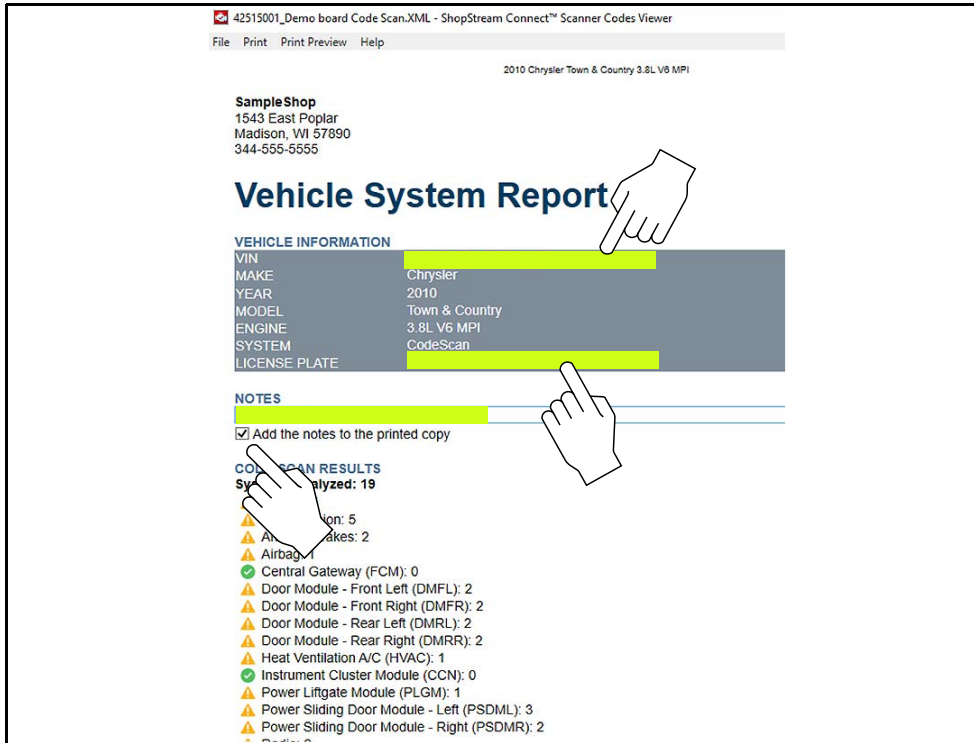

Figure 13-10
1. From ShopStream Connect, open the code scan .XML file to be edited (Figure 13-10).
2. Click in the editable fields as shown in (Figure 13-10) to change the values or add notes.
3. Check the “**Add the notes to the printed copy**” box to show the notes in the printout (Figure 13-10).